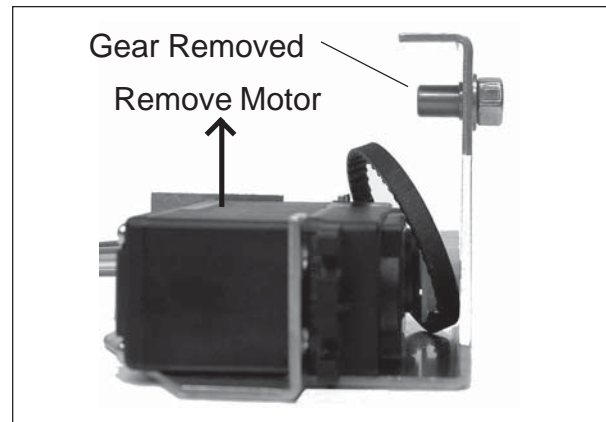

Figure 3-17. Top Gear Removed.
4. Refer to Figure 3-17 which illustrates the top Gear removed, the Motor can now be removed from the InCal Mechanism.
1. Install the replacement Motor into position with the Timing Belt as shown in Figure 3-17.